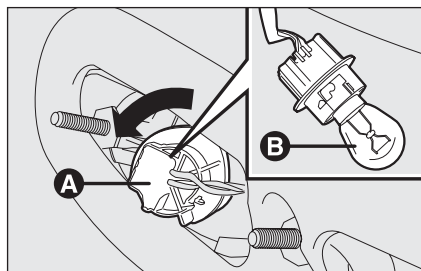

fig. 32
- ☐ turn the bulb holder **A-fig. 32** counterclockwise, remove the bulb **B** and replace it;